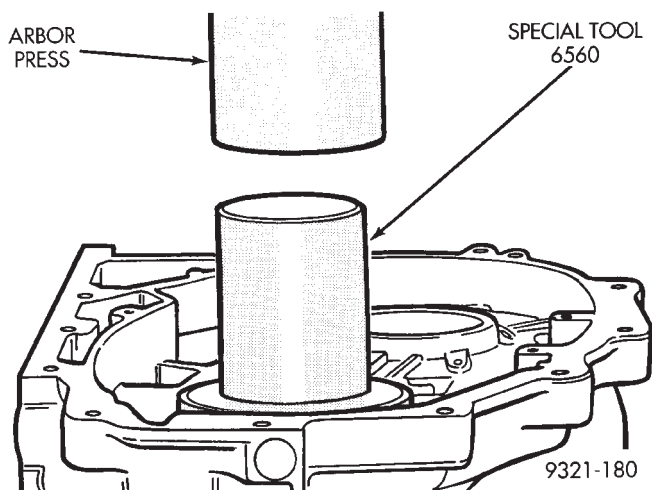

Fig. 279 Rear Transfer Shaft Cup Installation
(40) Use special tool 6560 to press cup into case (Fig. 279).